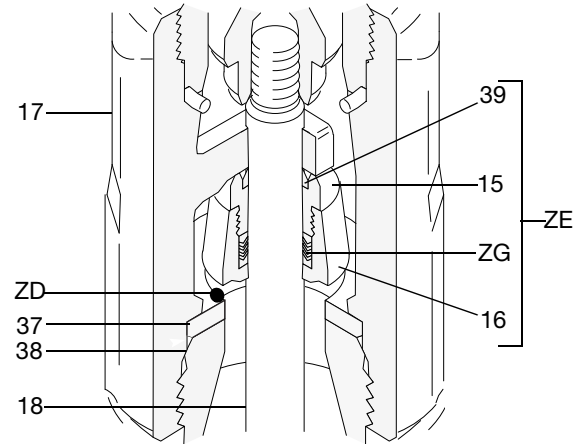
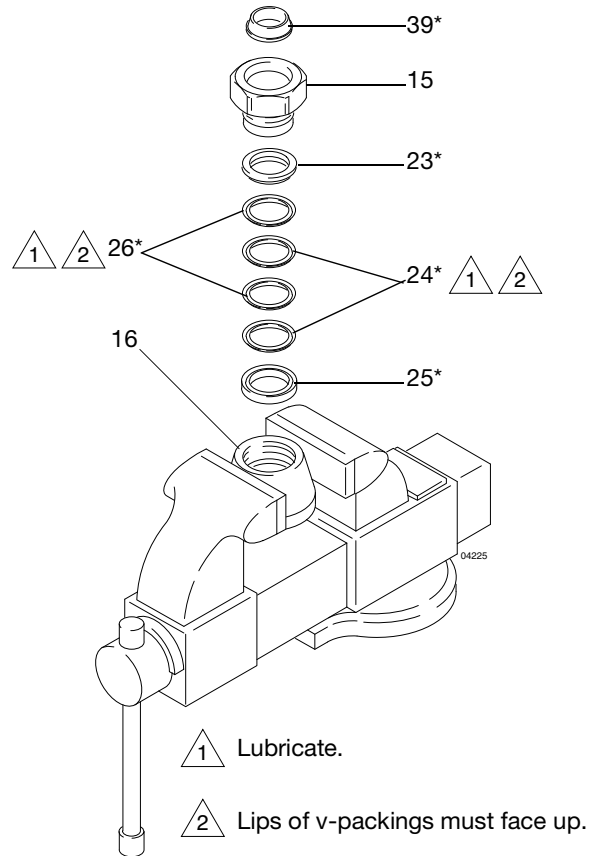

FIG. 5 Intake Valve Detail
FIG. 11
7. Pull the intake seat (37) and seal (38) out the bottom of the intake valve housing (17). Refer to FIG. 5, page 15.
15. Inspect the mating surfaces (ZH) of the piston (12) and piston seat (14) for damage or wear.
16. Disassemble the intake check valve assembly (ZE).
- a. Place the intake valve body (16) in a vise. Unscrew the packing nut (15).
- b. Remove the seal (39) from the packing nut. Remove the glands and packings (ZG) from the valve body.
17. Inspect the mating surfaces (ZD) of the intake valve body (16) and seat (37) for damage or wear. See FIG. 5, page 15, and FIG. 11, page 18.
- 2 Intake check valve (see Fig. 11).
1. Lubricate the intake packings and install them in the valve body (16), with the lips of the v-packings facing up, in the following order (see FIG. 11):
2. With the beveled side facing up, press the intake valve seal (39*) into the recess of the intake valve packing nut (15) until it snaps into place.
- △ 2 Intake check valve (see Fig. 11).
- △ 5 Screw valve plug (20) completely into valve body (29).